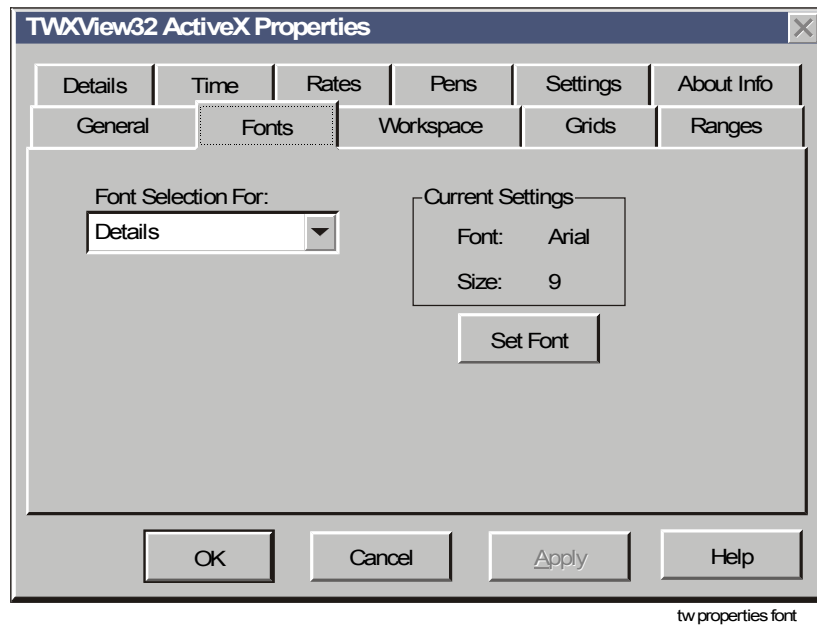

Figure 14-7: TWXView32 ActiveX Properties Dialog Box: Fonts Tab
2. Select the Fonts tab (Figure 14-7).